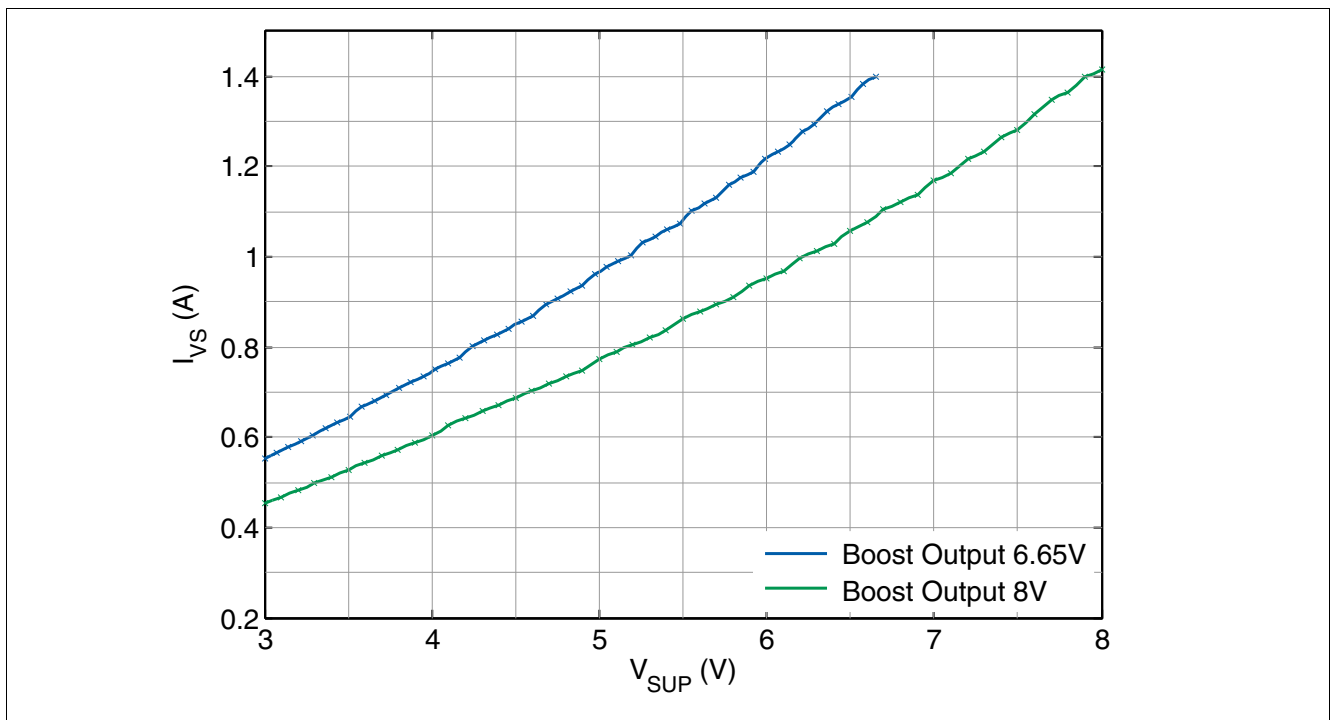

Figure 13 Maximum DCDC Boost current capability versus VSUP(TLE9271..3QX version).
3) Values verified in characterization with Boost converter specified in Chapter 15.1. Not subject to production test; specified by design. Refer to Figure 13 for additional information.
Note: Figure 13 is based on simulation results (specified by design), with Boost converter external components specified in Chapter 15.1.